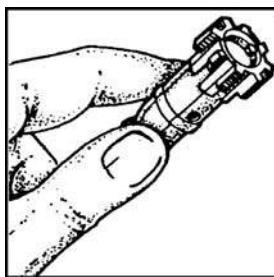

Figure 071-311-2025-26. Holding the extractor pin in
- d.** Slide the bolt into the carrier until the bolt cam pin hole in both the bolt carrier and the bolt are aligned (figure 071-311-2025-27).